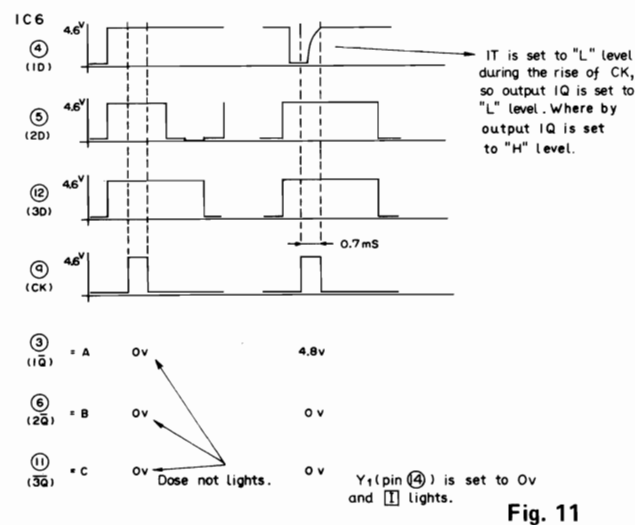

Fig. 11
For example, this is how memory (1) lights (figure 11).